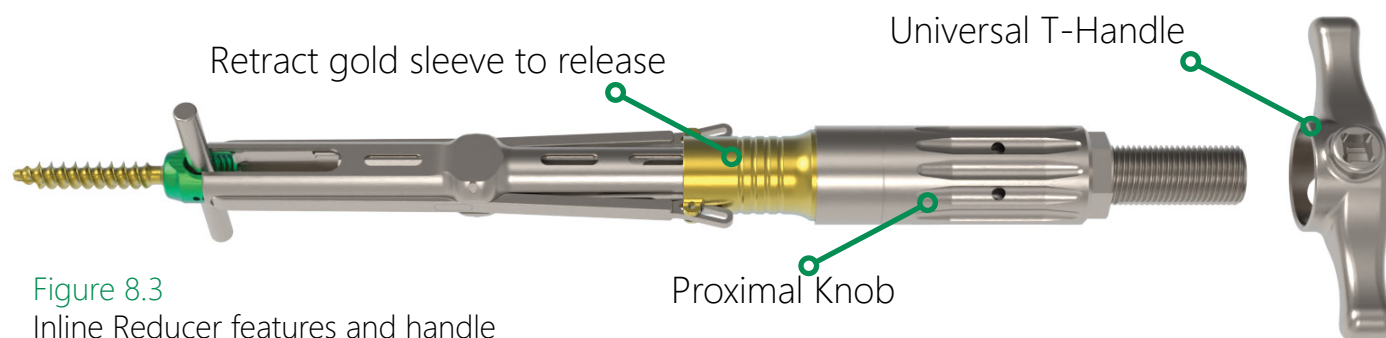

Figure 8.3
1. The Inline Reducer provides up to 30mm of continuous gradual reduction (Figure 8.3).